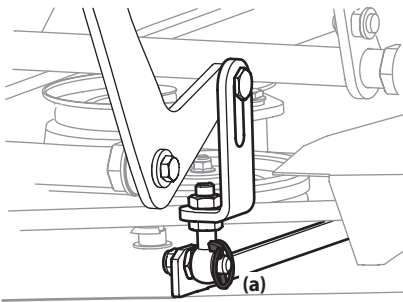

Figure 4-17
4. Remove the four lynch pins (a) that secure the deck to the deck lift assembly. See Figure 4-17.